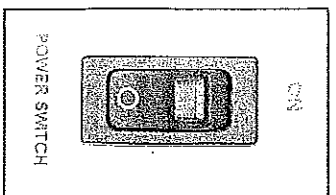

Figure 3
2. Turn the compressor on using the power switch on the front panel (see Figure 3), before turning on the laser system.